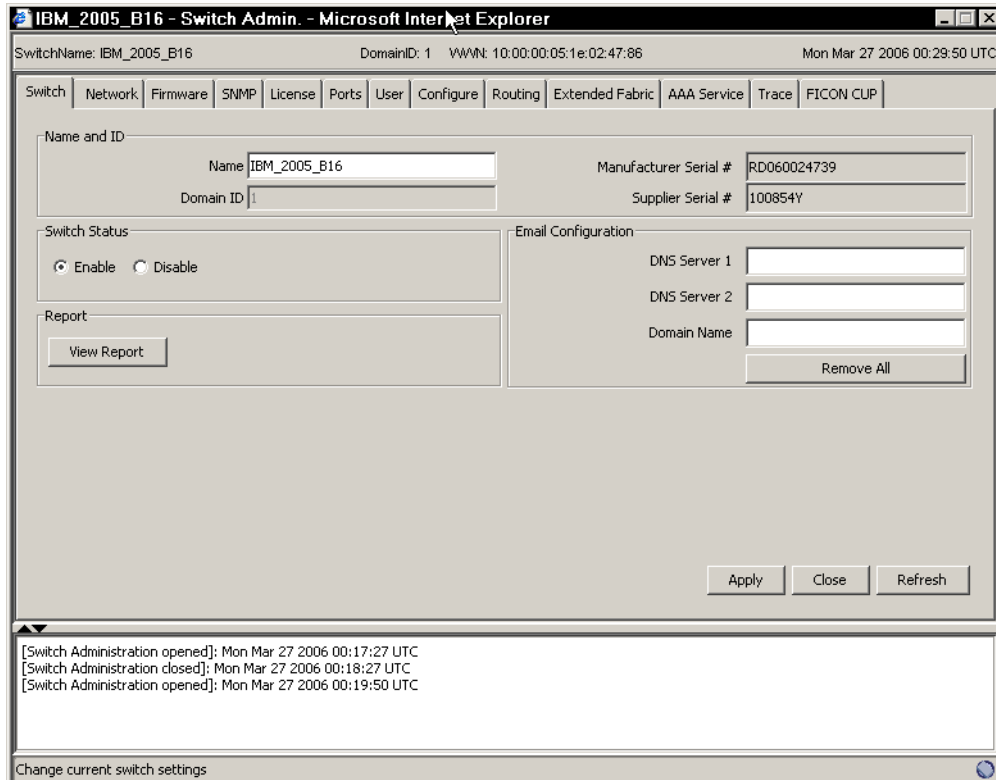

Figure 15 Switch Admin Panel
3. From the Switch tab on the admin panel, set the name for the switch, as shown in Figure 15 on page 16.